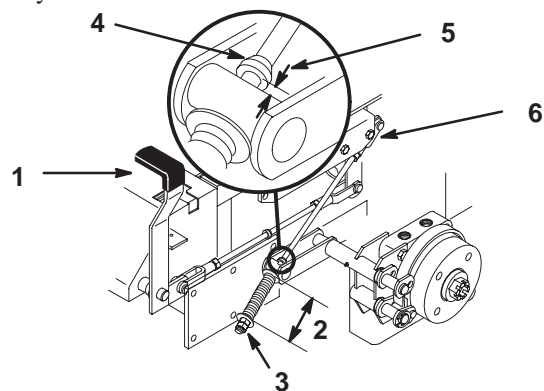

Figure 57
2. Measure the length of the spring. Measurement should be 2-3/4 inch (70 mm) between washers (Fig. 57).
3. If adjustment is necessary, loosen the jam nut below the spring and tighten the nut directly below the yoke (Fig. 57). Turn the nut until the correct measurement is obtained. Tighten the two nuts together and repeat on opposite side of unit.
6. Measure the distance between the trunnion roller and the collar on brake rod. Measurement should be 3/16-1/4 inch (5-7 mm) (Fig. 57).
7. If adjustment is necessary, loosen the jam nut directly below the yoke. Turn the bottom rod until the correct measurement is obtained (Fig. 57). Tighten jam nut at yoke.